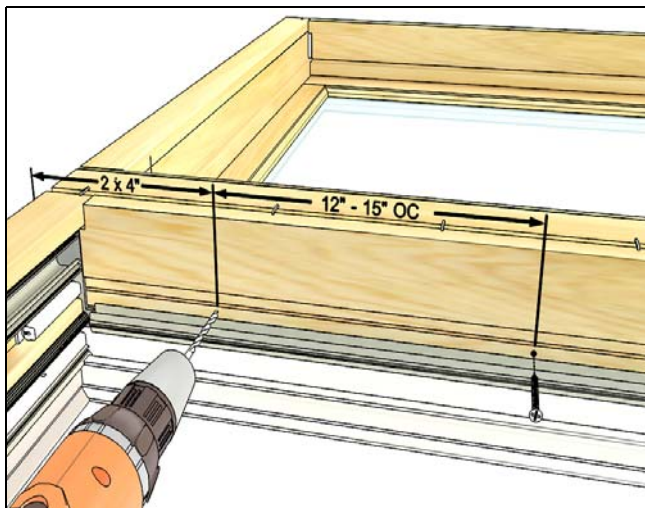

Figure 17
5. On picture units, use the holes already pre-drilled in the head jamb (done at the factory). On operator units, countersink and pre-drill holes 4" (102) from each corner and 12-15" (305-381) on the center of head jamb using a 1/8"(3) drill bit. Place holes on the groove used to hold in the parting stop. Fasten the two units together with #8 x 1 1/2" Phillips flat head wood screws as shown in Figure 17.